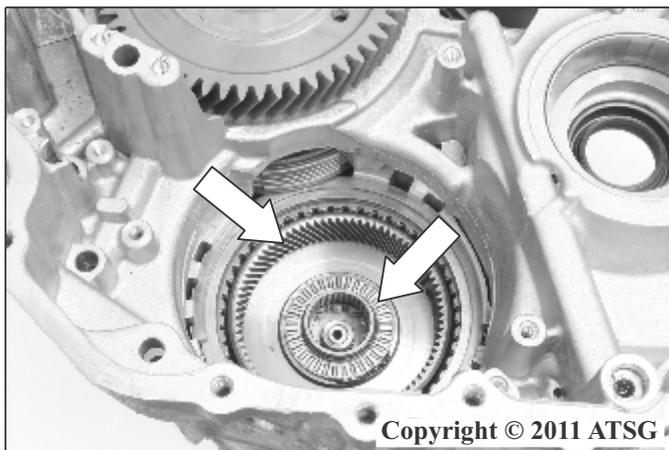

Figure 49
70. Remove the 1-2/Reverse internal gear front thrust bearing assembly as shown in Figure 49.
71. Remove the 1-2/Reverse internal gear from the transmission as shown in Figure 49.
72. Remove the 1-2/Reverse internal gear race and lower thrust bearing assembly from the lower side of the internal gear as shown in Figure 49.